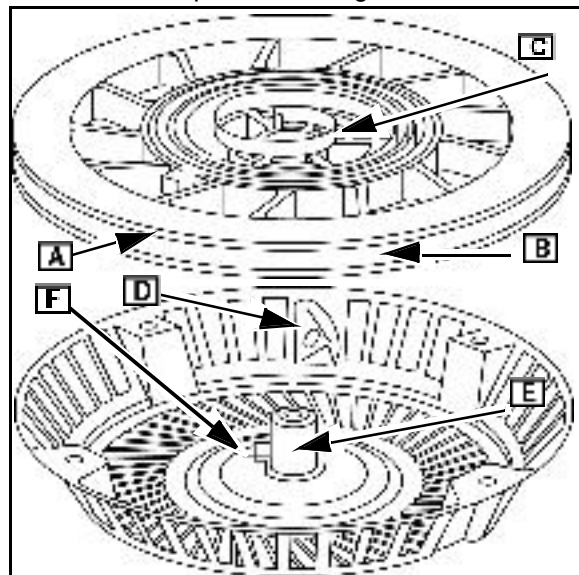

Fig. 6
- Inspect pulley for wear, cracks, rough edges (A) or burrs in pulley groove (B) and wear on center hole ([C] Fig. 6). Replace pulley if damaged or worn.
- Inspect starter housing for wear or sharp edges at rope eyelet (D), center pivot post (E), and inner spring anchor tab ([F] Fig. 6). Replace assembly if worn or damaged.